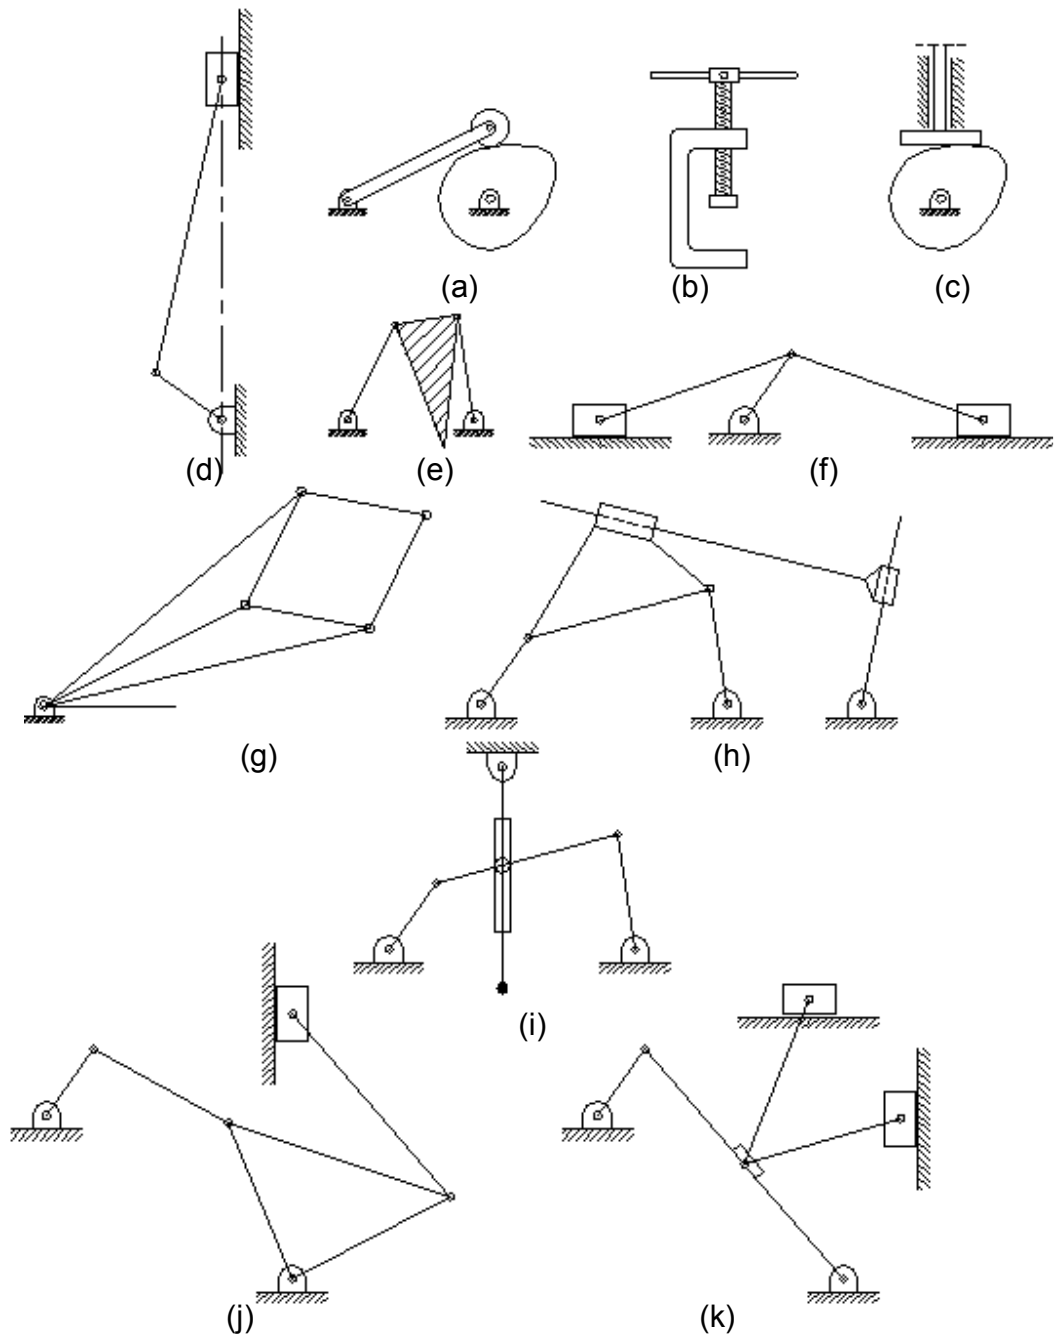

Figure P1.1
1.1 Determine the degree of freedom for the linkages in Figure P1.1, which of these linkages represents mechanisms.